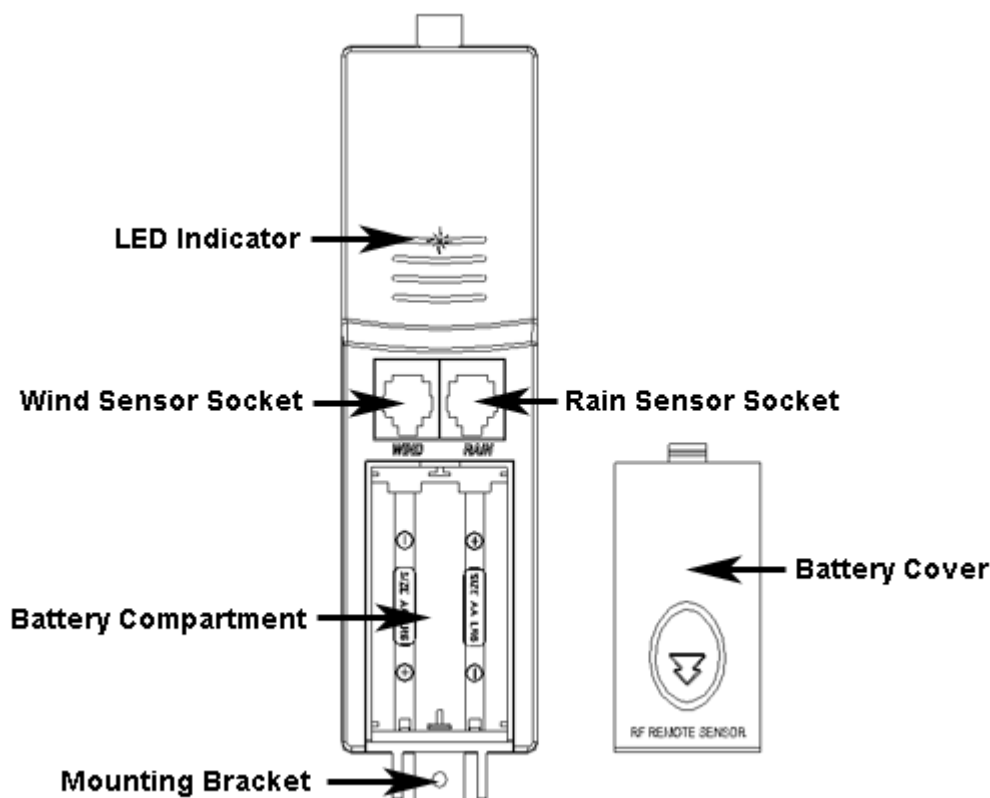

Figure 3
1. The thermo-hygrometer-transmitter (THT) comes pre-packaged inside the rain shield. Pull the transmitter from the shield to expose the LED indicator, sensor sockets and battery compartment, as shown in Figure 3.